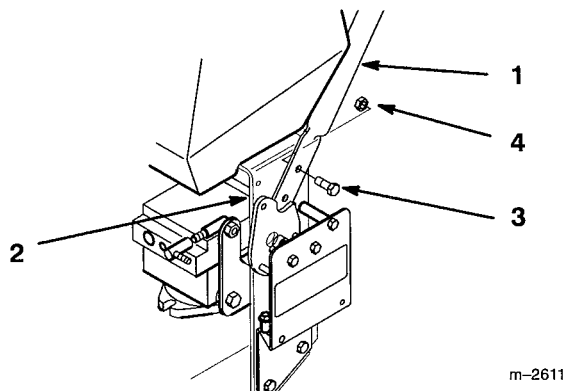

Figure 1
1. Align upper handle with mounting holes in rear frame (Fig. 1). Select high, medium or low position for lower mounting hole.
2. Secure each side with (2) 3/8 -16 x 1" (26mm) flange bolts and flange nuts (Fig. 1). Torque bolts to 25 ft. lbs. (34 N.m).